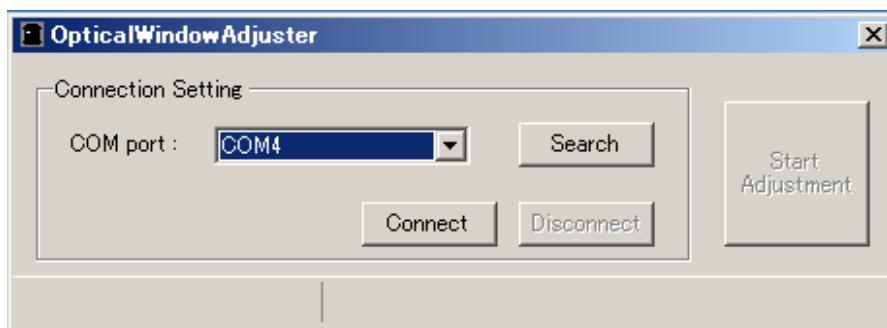

Figure 8-2 Optical Window Adjuster
c) Start Optical Window Adjuster. Window as shown in figure 8-2 will appear.
- g) When adjustment is complete, dialog box as shown in Figure 8-3 will appear. Click the OK button and then click disconnect button (Figure 8-2). Remove the USB cable. UAM will switch to normal operation. Retry the adjustment after checking the optical window and USB connection if an error dialog as shown in Figure 8-4 is displayed. If adjustment fails even after repeated trial contact the nearest distributor or sales representative for support. Send the log file and calibration data file for investigating the cause of failure in such case.